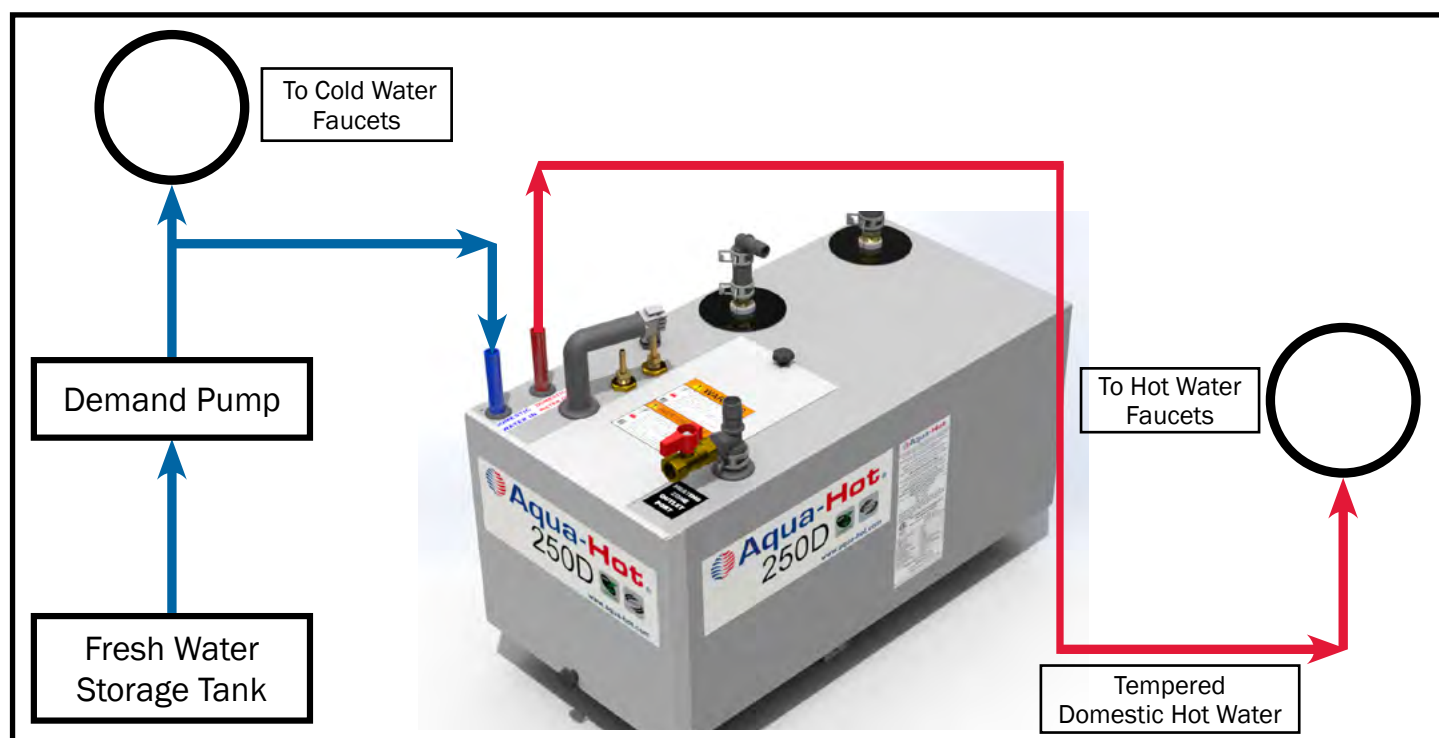

Figure 27
- Plumb the domestic water system according to Figure 27.